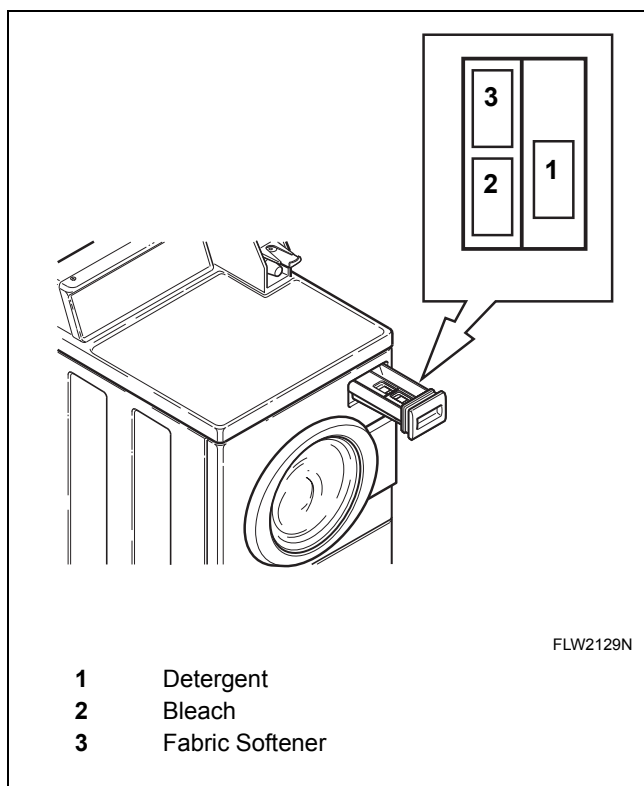

Figure 29
Open dispenser drawer. Measure and add low sudsing, high efficiency (HE) detergent (1), bleach (2) and fabric softener (3) to the dispenser drawer (refer to Figure 29). Close dispenser drawer.